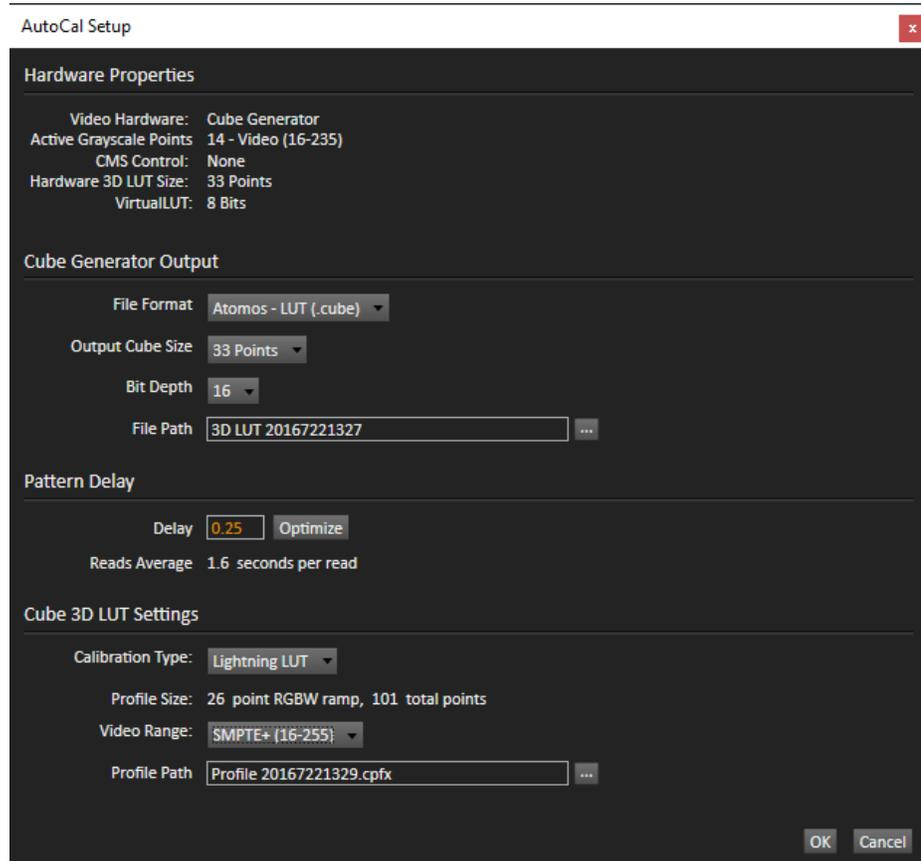

Figure 7. CalMAN AutoCal Setup dialog, for selecting 3D LUT creation options.
1. On the 3D Cube LUT page, click the AutoCal button (rotating arrows) at the right end of the meter action buttons. The AutoCal Setup dialog then appears (Figure 7).
2. On the popup AutoCal Setup dialog (Figure 7), under *File Format*, select “Atomos – LUT (.cube)” (creates a 33x33x33 16-bit 3D LUT .cube format file).